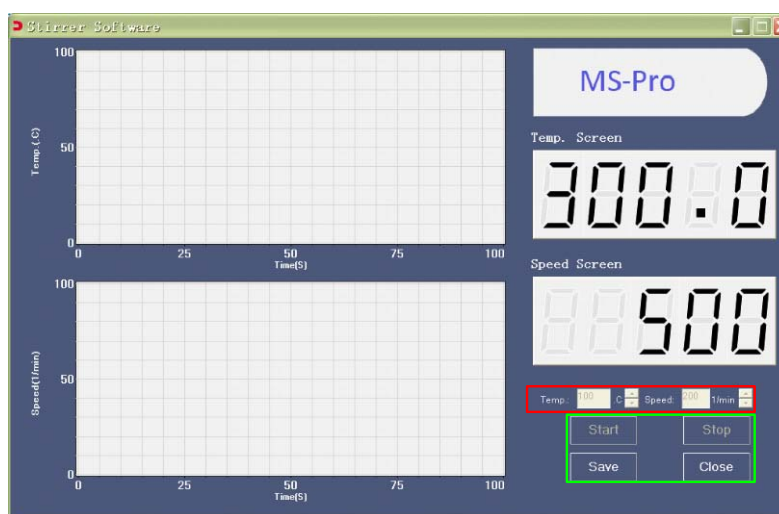

Fig. 2
3. After the setup is accomplished, click “yes”, the operation page see Fig.2 will pop out after 3-5 seconds.